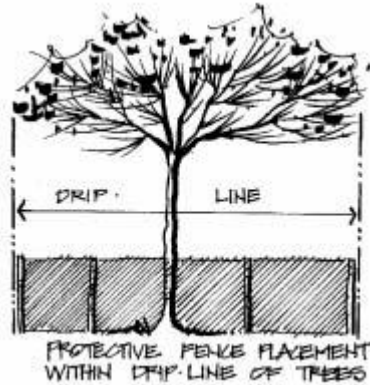

FIGURE 16
- Protective fence or barricade shall be placed around the drip line of trees to prevent storage of machinery, equipment or parking of cars which can cause soil compaction and mechanical damage. Placement should be at drip line of tree. **Figure 16.**